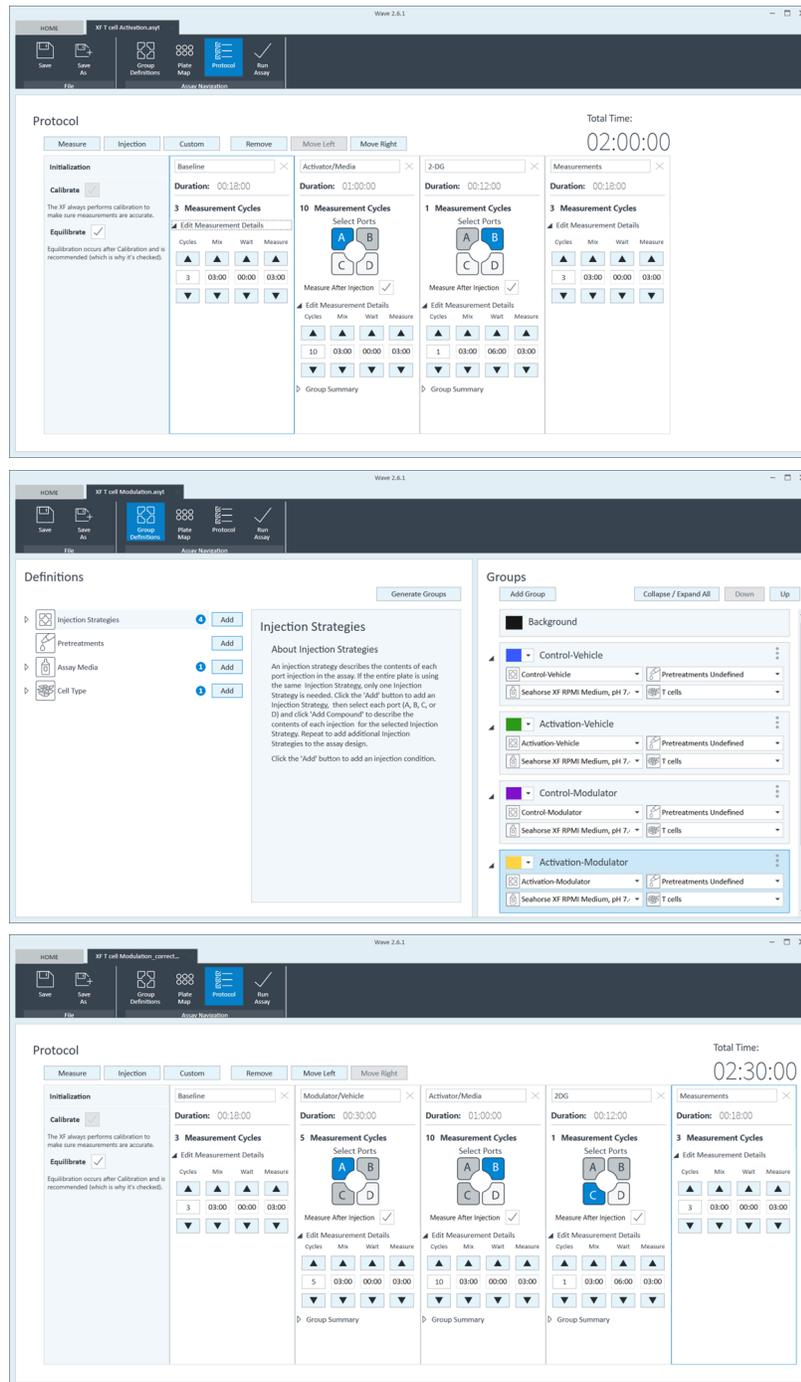

Figure 3. Assay template designs for Agilent Seahorse XF T Cell Activation Assays.
Both standard and modulation assays can be performed using the respective **XF T Cell Activation Assay template** designs, shown in **Figure 3**. These default template designs for standard assay (Figure 3A and 3B) and modulation assay (Figure 3C and 3D) measure PER for 10 cycles after the activator injection and 4 cycles after 2-DG injection. After the injection of 2-DG, a six-minute wait period is included in the instrument command protocols prior to the subsequent measurement command, which prevents any potential transient perturbation in ECAR measurements associated with the injection of 2-DG.
- 8 Create an assay template file with Wave Desktop software using the *Assay Template*. Refer to **Figure 3** on page 8 for recommended assay settings. Make any necessary group modifications to the template for your specific assay design.